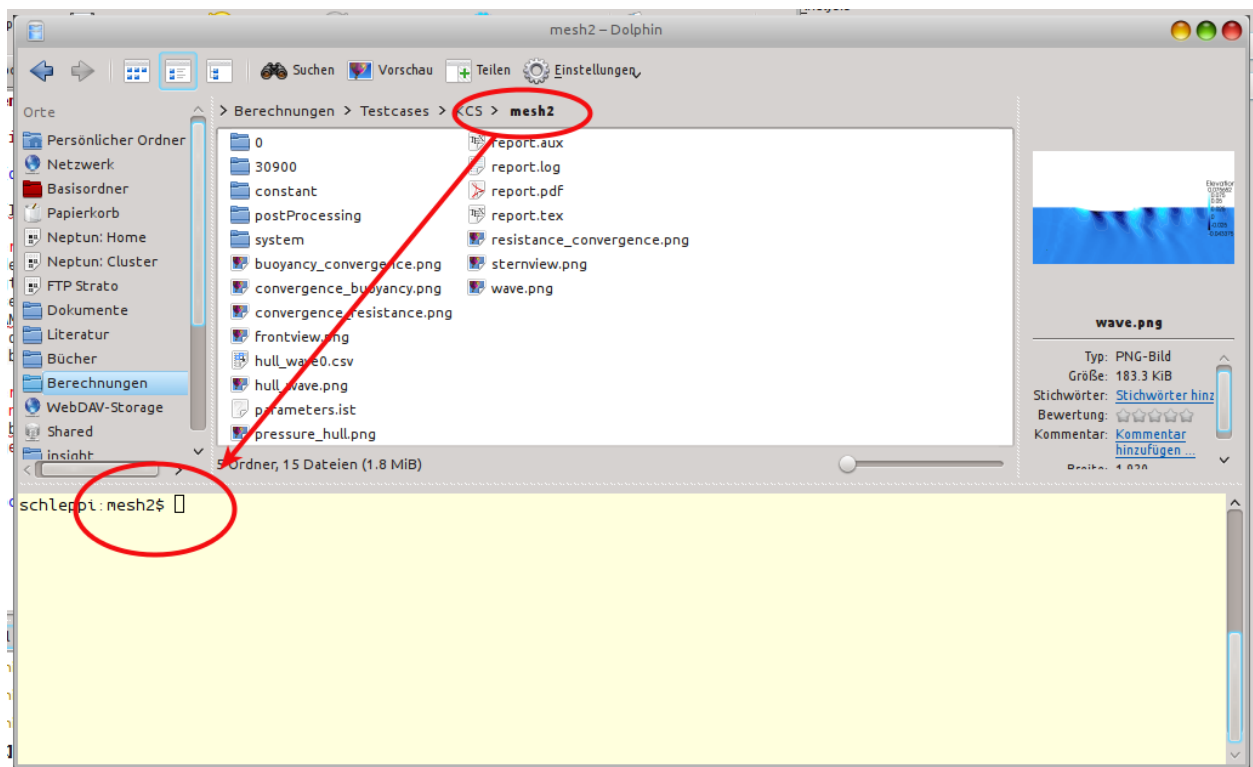

Figure 1: Dolphin file manager with embedded terminal
1. The KDE file manager **dolphin** offers the possibility to display a console in the lower half of the window (figure 1). The working directory is synchronized with the directory shown in the graphical window by injection of **cd** commands. Vice versa, when the working directory is changed in the shell, the graphical display is updated as well.